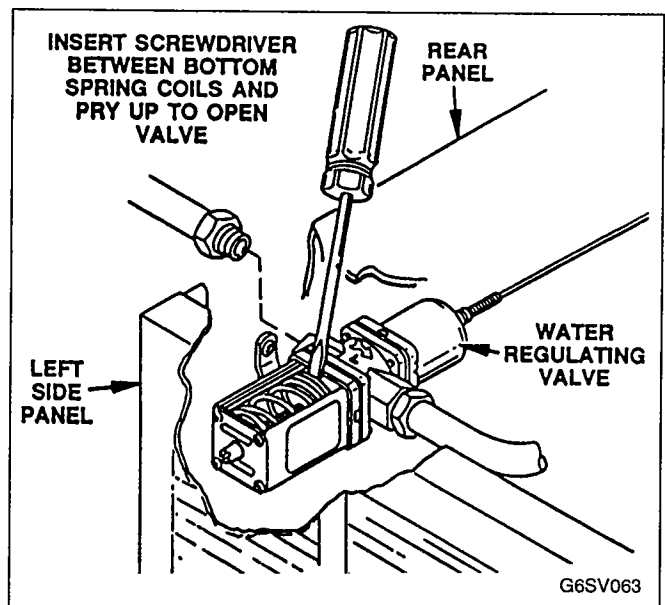

FIGURE 43. MANUALLY OPENING WATER REGULATING VALVE
3. Pry open water regulating valve by inserting large standard screwdriver between bottom spring coils of valve. Pry spring upward to open valve, Figure 43.